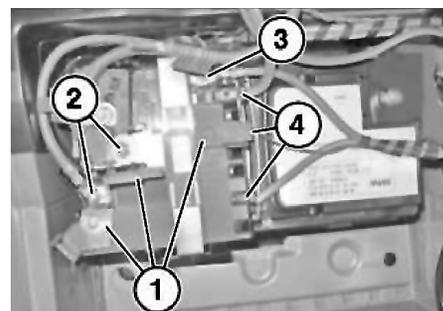

Fig. 2 Power distributor connector removal
- a. Open covers (1) and remove power distributor mounting fasteners (2), **Fig. 2**.
- b. Remove nut (3), then disconnect electrical plug connector (4), **Fig. 2**.
- b. Connect electrical plug connector (4), **Fig. 2**.
- c. Install nut (3), **Fig. 2**. **Torque** nut to 71 inch lbs.
- d. Install power distributor mounting fasteners (2). **Torque** fasteners to 11 ft. lbs., and replace covers (1), **Fig. 2**.